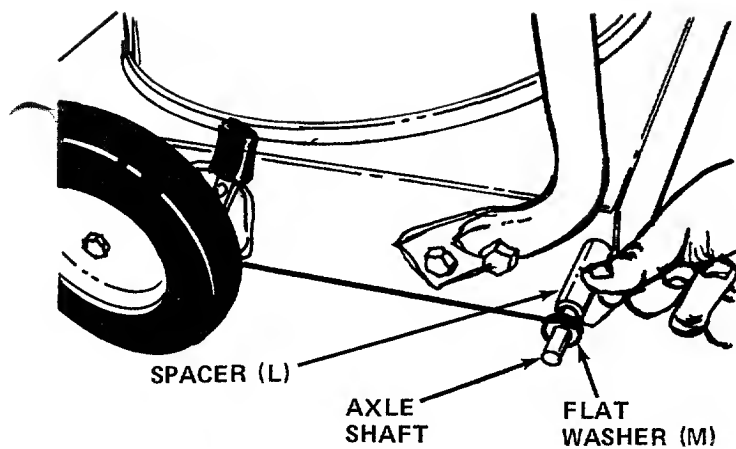

FIGURE 4
6. Slide spacers (L) onto the axle shafts. Place one flat washer (M) on each shaft next to the spacers. See figure 4.